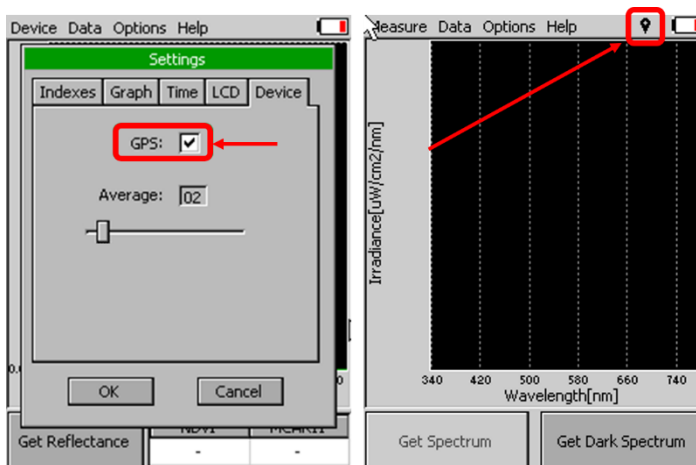

Fig. 35 A) Activation of GPS B) GPS active.
- Click on the check box for GPS (Fig. 35 - A)
- Wait until the GPS position is found. The GPS is ready when the icon of the position flag, in upper menu, stops flashing (Fig. 35-B).